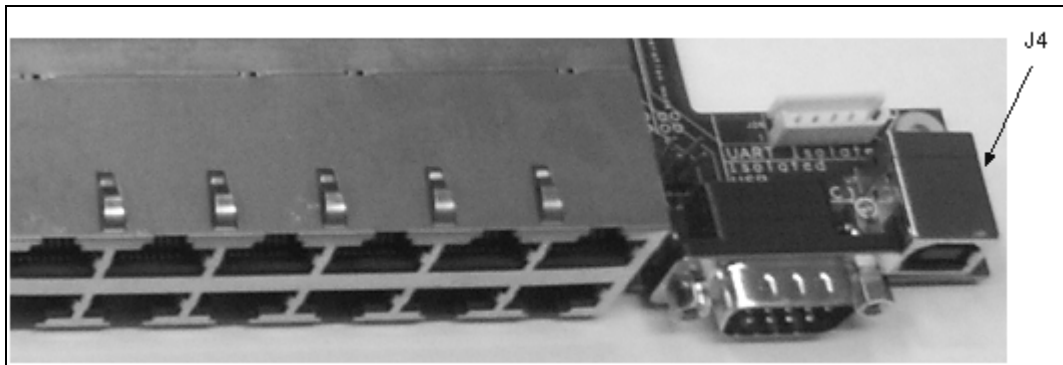

Figure 10: Isolated USB Interface
6. Isolated USB Interface (see Figure 10)